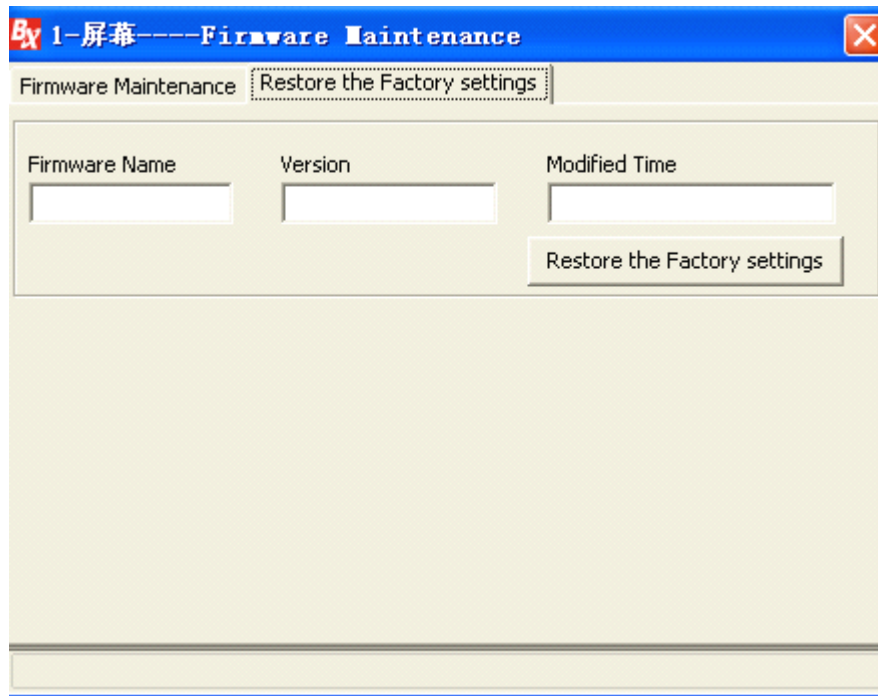

figure 5-29
- ◆ Restore the factory settings: switch to this page, the current firmware name, version, modify time will be shown . Click “restore the factory settings “to restore the firmware. As shown in figure 5-29.